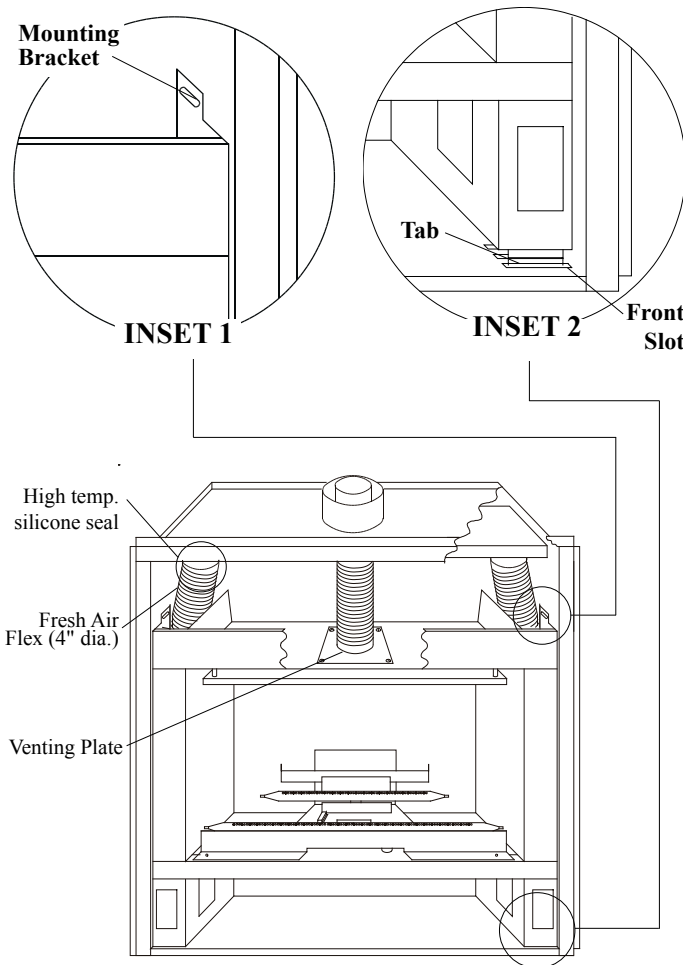

Figure 22. ME38-ODV-2 insert.
2. Remove the fresh air flex from the collars on the shell. *See Figure 22. Important: Be careful not to damage the fresh air flex during removal or storage.*